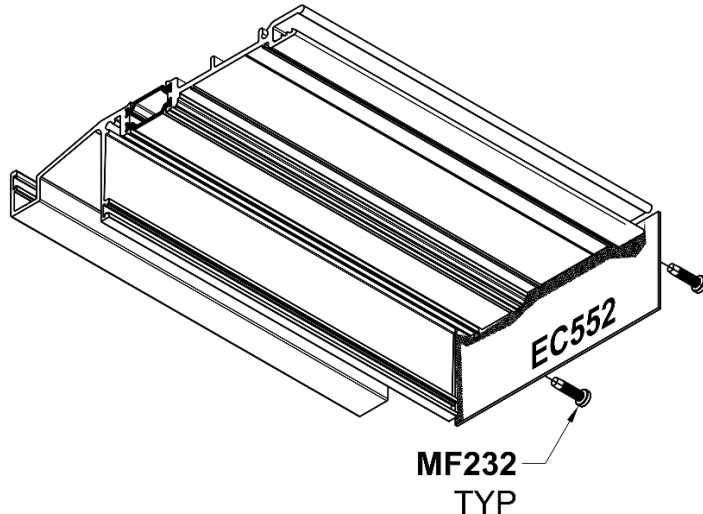

Figure 26: Head Receptor End Dam Attachment
- 11.2 Attach **EC552** End Dam with (2) **MF232** fasteners, as shown in *Figure 26*, stopping 1/4" short of attaching completely.